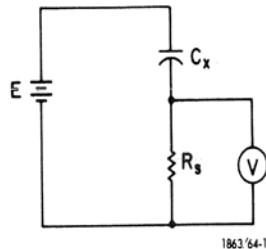

Figure 4.2 Basic megohmmeter circuit
Measuring insulation resistance of large capacitors that have very low leakage is difficult by any method. Considering the basic circuit of Figure 4.2, if R_s is high, the $R_s C_x$ time constant can become very long on the high resistance ranges if C_x is large. If R_s is low, the voltmeter must be very sensitive for a given leakage resistance range and, therefore, the supply voltage (E) must be extremely stable to avoid large meter fluctuations. The design of the 1864 is a compromise between these factors. Measurements become difficult when the $R_s C_x$ product is 10^6 , even under ideal conditions. This can be calculated as (C_x in μF) \times (R_s in $M\Omega$) or (C_x in F) \times (R_s in Ω). Table 4.1 contains values for R_s